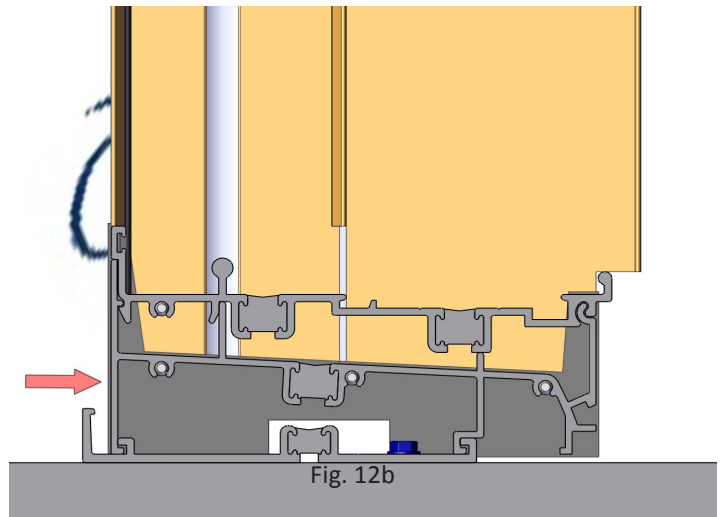

Fig. 12b
4. Push the frame in against the framing locking the sill into the sub-sill anchor plate. (Fig. 12b)